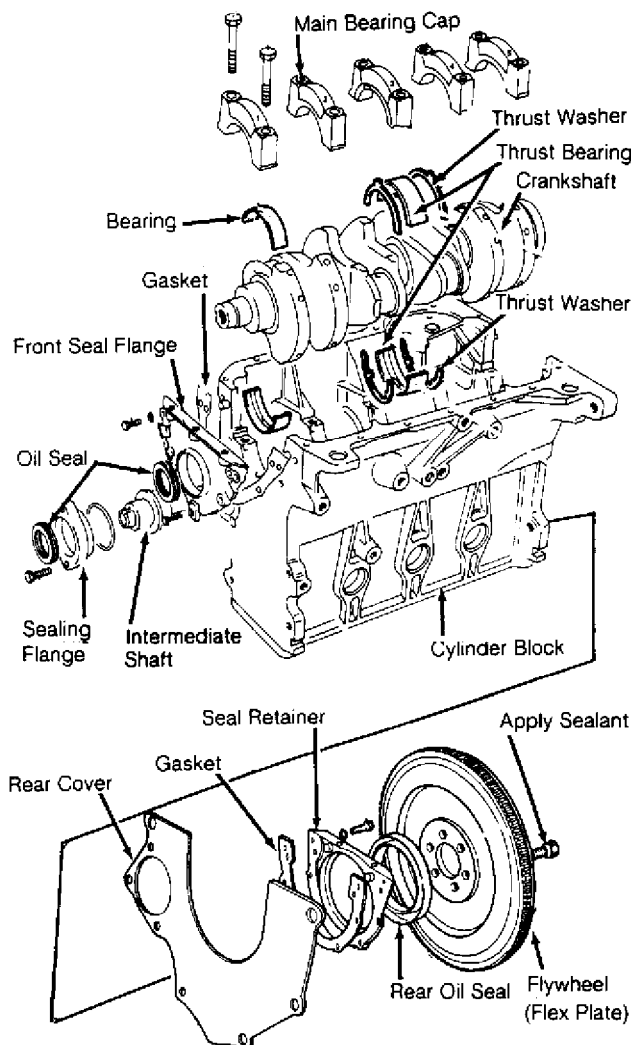

Fig. 17: Crankshaft Assembly
2) Ensure intermediate shaft end play does not exceed .010" (.25 mm). Remove intermediate shaft sprocket. Remove intermediate shaft seal flange. Remove intermediate shaft. Replace seal (if necessary). See Fig. 17. To install, reverse removal procedure.
Remove flywheel/flexplate, and discard bolts. See Fig. 17. Remove retaining flange. Remove rear crankshaft oil seal. Use Installer (2003/1) to install seal. To complete installation, reverse removal procedure. Install new flywheel/flex plate bolts.
Main bearing caps are marked with matching journal for installation in original position. See Fig. 17. Measure crankshaft end play. See THRUST BEARING below.
Insert feeler gauge between No. 3 main bearing and crankshaft thrust face to measure end play. See Fig. 17. Replace thrust bearing as necessary. See CRANKSHAFT, MAIN & CONNECTING ROD BEARINGS TABLE under ENGINE SPECIFICATIONS at end of article.